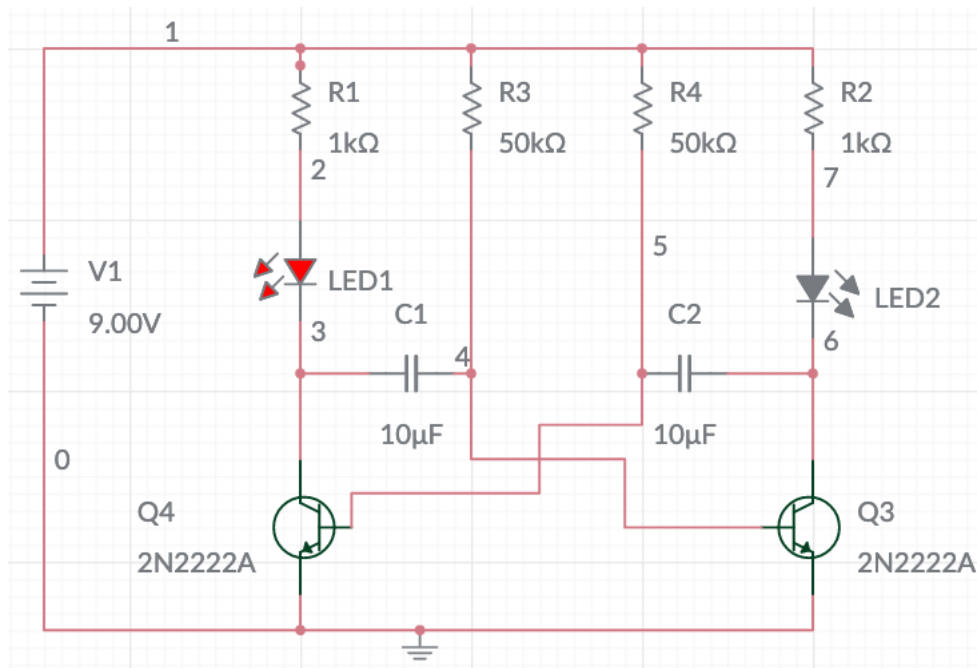

Figure 3: Multisim Schematic of the MK102
Creating the design in Multisim will help you understand the functionality of the circuit and make it easier to visualize how it is constructed, making you less likely to make an error in the lab. An example of the schematic in Multisim can be found in Figure 3.
1.4.1 Construct the MK102 schematic from Figure 3 in Multisim.